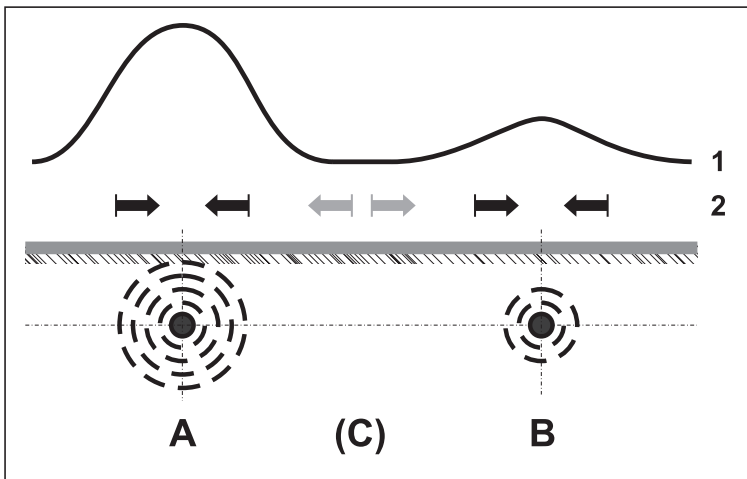

Fig. 29: Location situation with adjacent lines
Fig. 29 shows a location situation with an additional line B close to the line to be located, line A. Line A is galvanically energized. The signal curve (1) shows a maximum above each line.